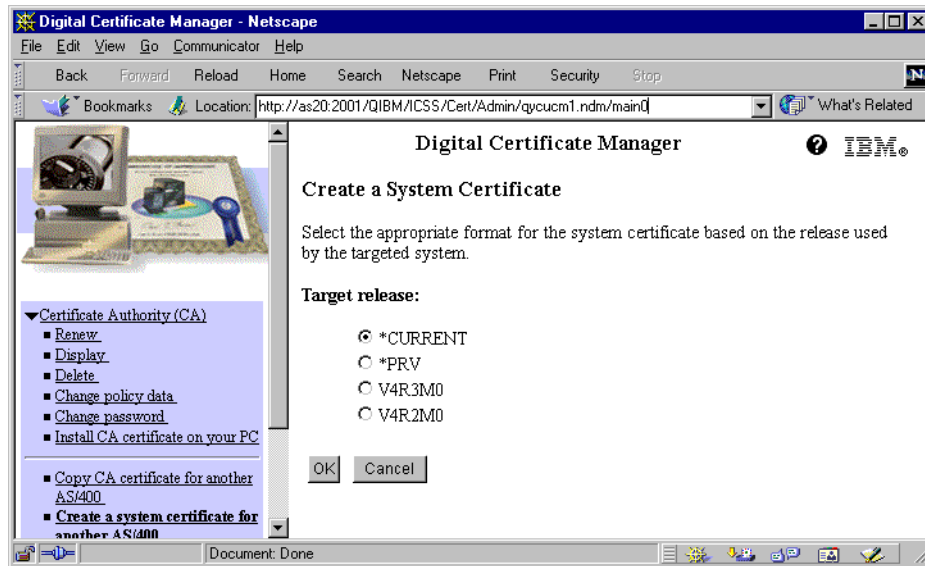

Figure 164. Create a System Certificate (target release)
1. From the main Digital Certificate Manager Web page (on your Certificate Authority system), select **Certificate Authority (CA)**. Then, select **Create a system certificate for another AS/400** (Figure 164).